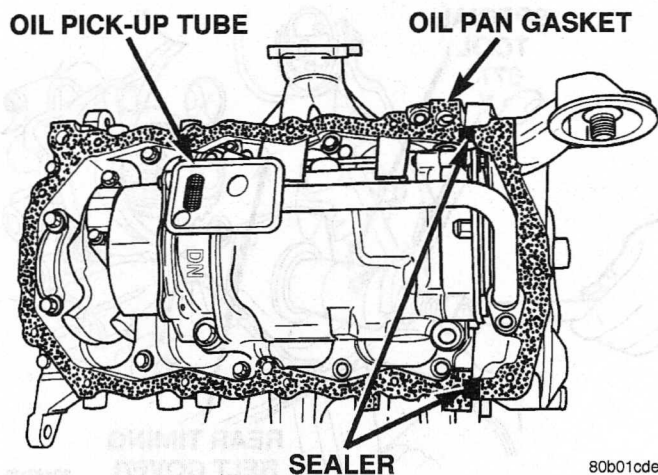

Fig. 68 Oil Pan Gasket Installation
- (2) Install the oil pan gasket to the block (Fig. 68).
- (3) Install pan and tighten the screws to 12 N·m (105 in. lbs.).
- (4) Install dust shield.
- (5) Lower vehicle and fill engine crankcase with proper oil to correct level.